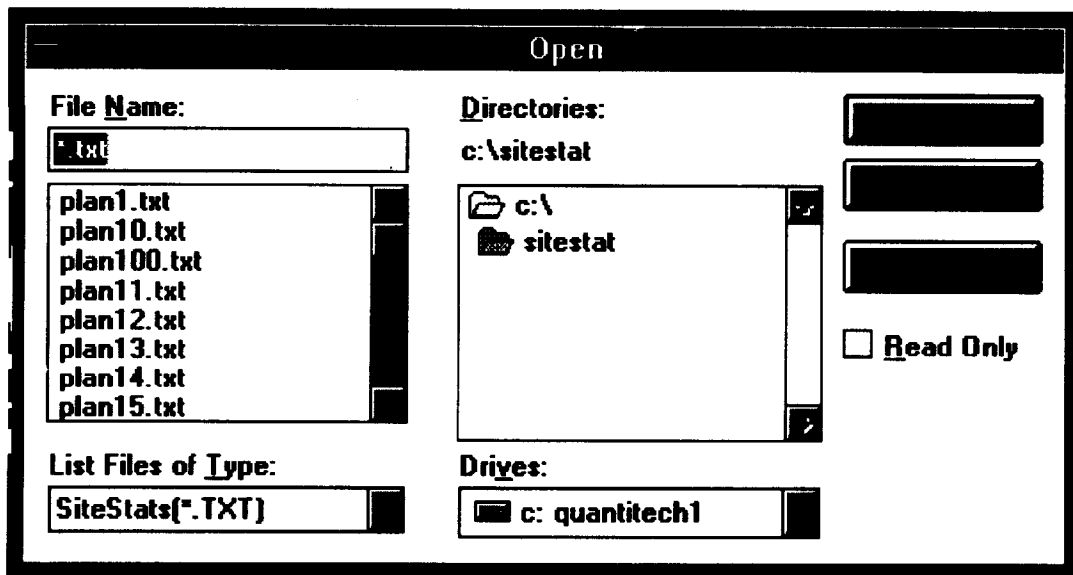

Figure 3.3-1. Opening Saved Data
- * A dialog box, similar to the one shown in Figure 3.3-1, appears allowing the user to switch drives and/or directories.